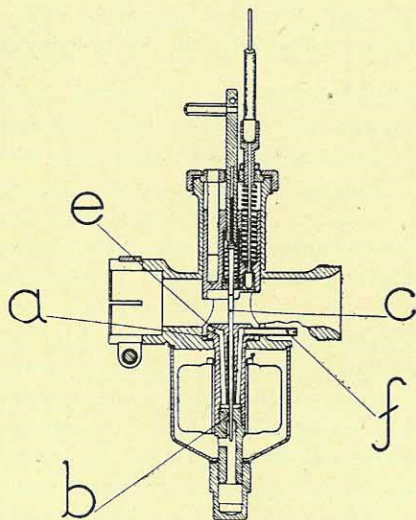

FIG. 34.—SECTIONAL ARRANGEMENT OF SINGLE-LEVER CARBURETTER.
(1) By a vertical rod engaging with a special quick-thread in the centre of the throttle, and which raises or lowers the taper needle $\frac{1}{4}$ in. for one complete turn. The bar is screwed right-hand so that turning anti-clockwise raises the needle, thereby enriching the mixture. Should the throttle control cable restrict the required amount of turn, holes in the side of the bar give alternative positions for the operating rod (see Fig. 34).
(2) By a Bowden-operated control fitted to the handlebar. The nipple soldered to end of inner cable rests against the head of taper needle, which is kept in contact with the nipple by a spring, so that when the inner cable is moved up and down, the needle follows because of the spring pressure. The control is marked "rich" and "weak" to indicate the needle setting. On no account should the control lever be used as an ordinary "air-control lever" is used. It should remain stationary except when deliberately wishing to alter the size of the jet for starting from cold, or when an extra-rich mixture is required.
The action of the carburetter is very simple, and reference to the sectional drawings, Figs. 34 and 35, will make it clear.
float chamber. The construction of both types is generally as shown in Figs. 34 and 35.